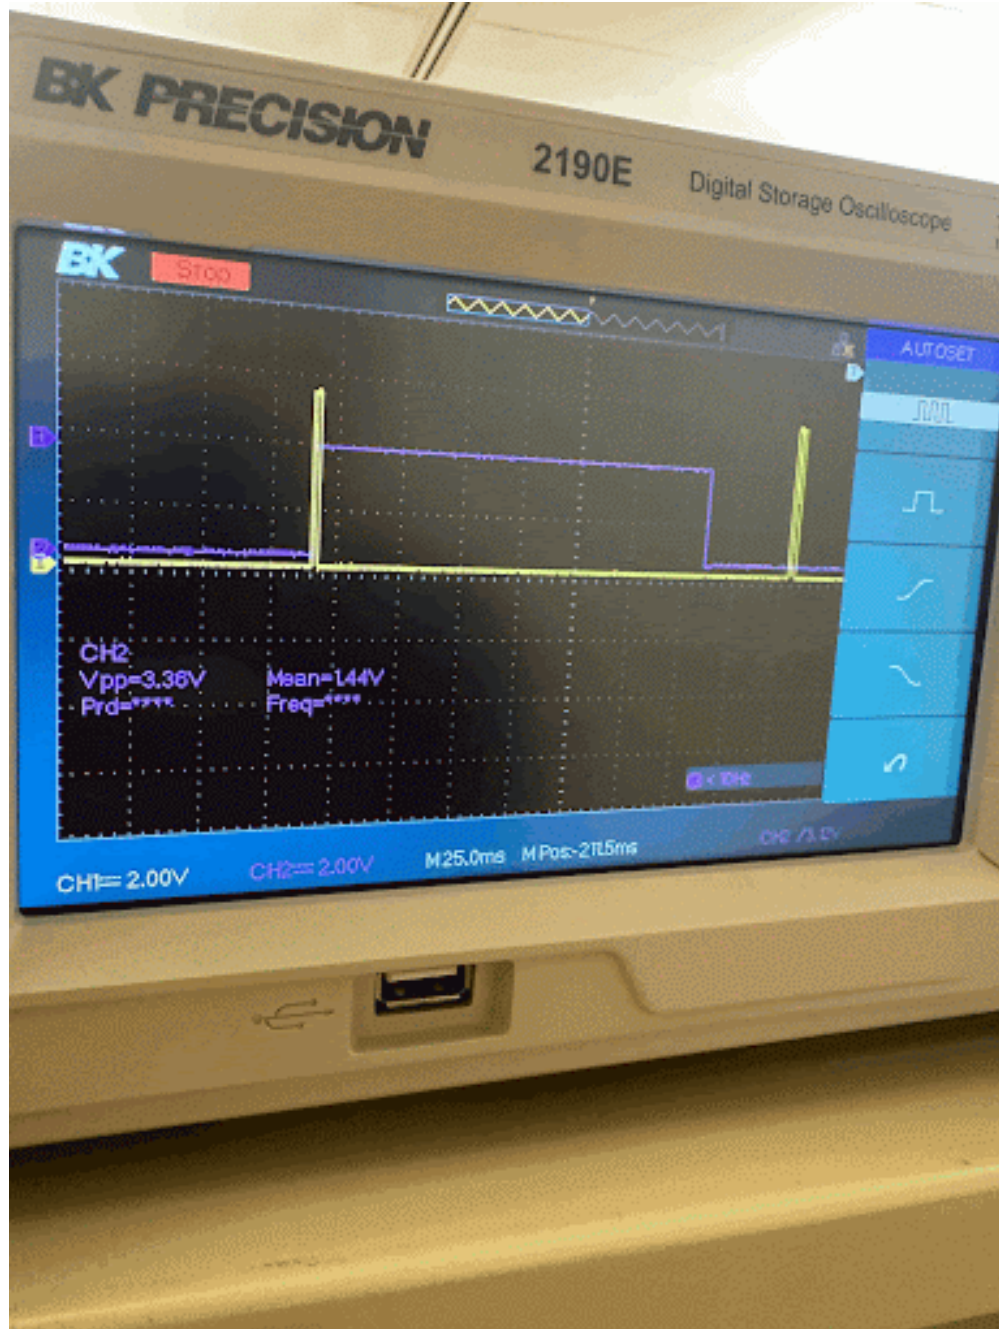

Figure 3
- **Figure 3:** Oscilloscope capture of SPI transmission. Yellow marks the beginning(rising edge) of the string, as purple marks the continuation of the transmitted string “Who Am I” over SPI